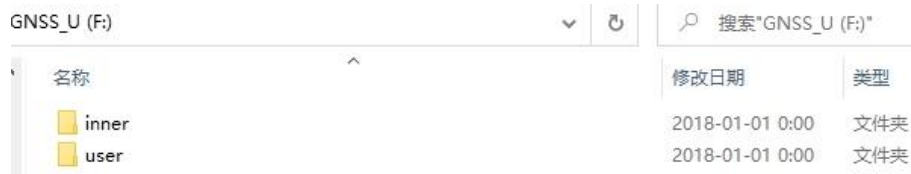

Figure 3.18 Folders in the GNSS_U disk
4. Open the GNSS_U disk and there are two folders: inner and user. As shown in figure 3.18 below.